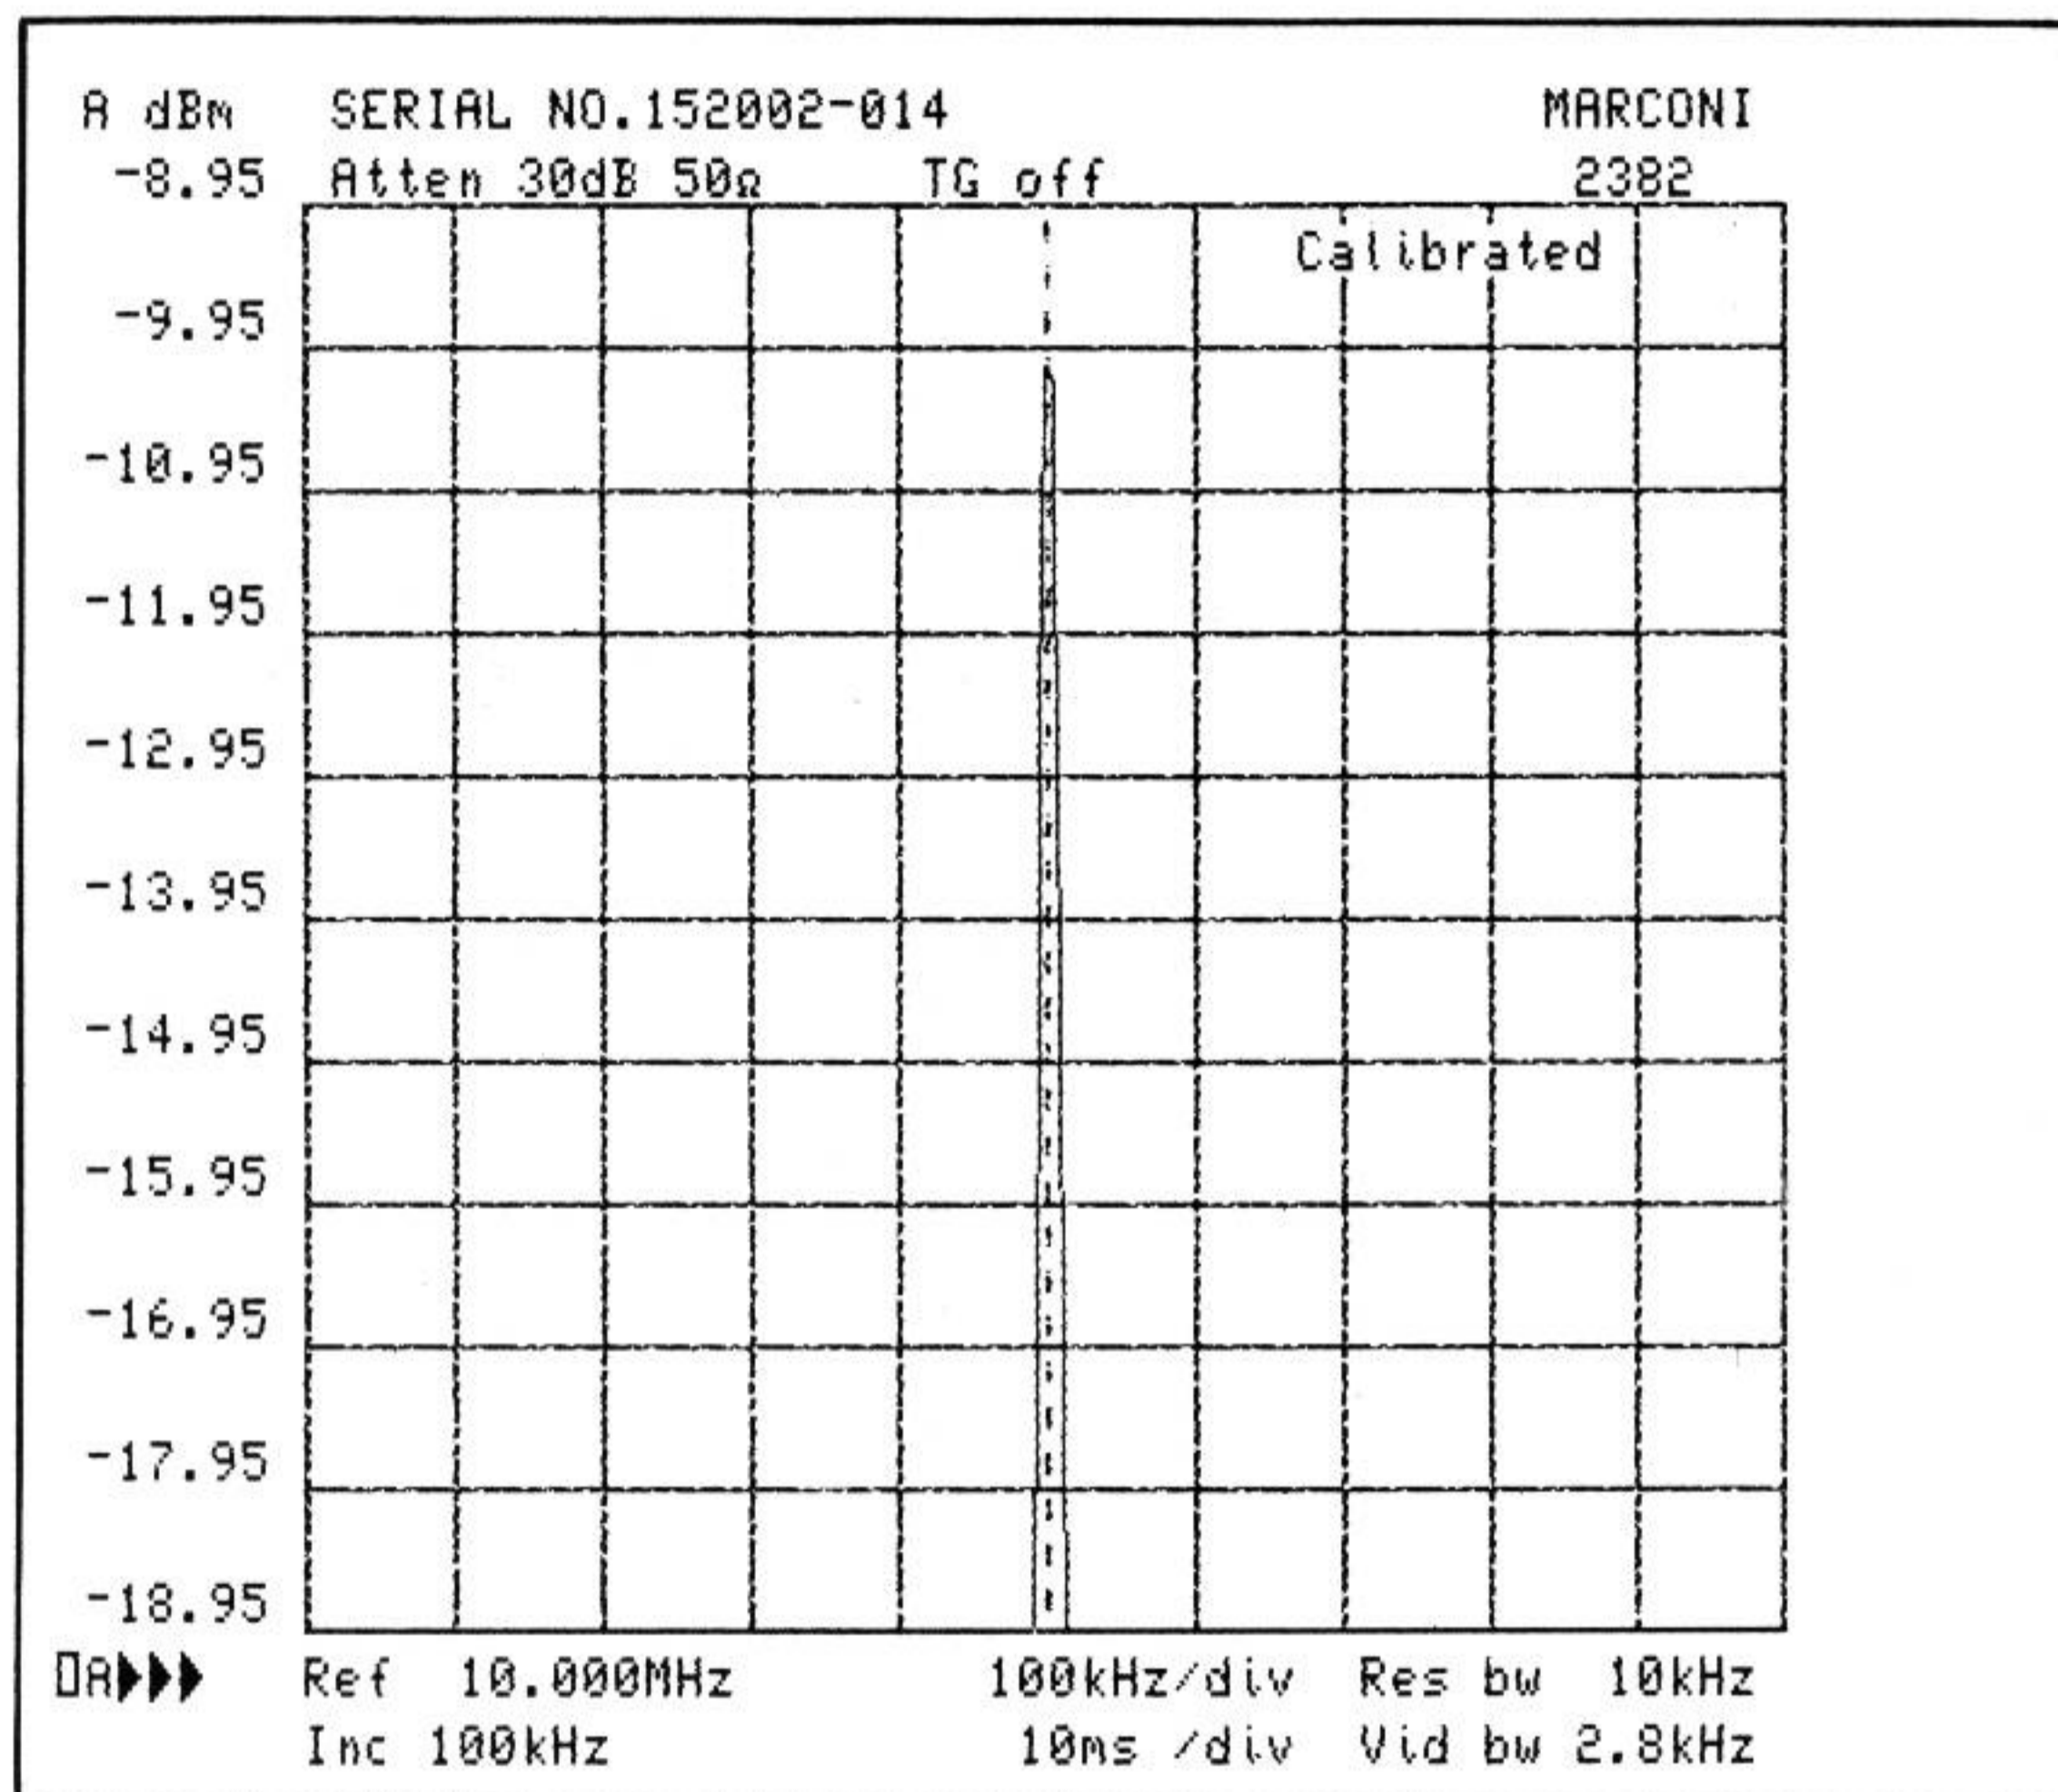

Fig. 7 Reference level - fine control display
34. The top of screen reference level can also be changed using the rotary control [25]. This is a fine control however whereas the above set reference level increment keys are coarse controls. Rotate the control anticlockwise. This reduces the sensitivity, reference level increases and the trace moves down the screen. The reference level changes in steps which vary according to the selected vertical scale. For the 10 dB, 5 dB and 2 dB/div. keys the steps are 0.1 dB. For the 1 dB and 0.5 dB/div. keys the steps are 0.01 dB. Rotate the control clockwise and watch the trace moving up the screen in the same way and to the same extent as above. Refer to Fig. 7. The sensitivity increases when the control is moved in this direction and reference level increases. Notice the audible click as the control is rotated. This occurs whenever the 10 dB input attenuator changes.